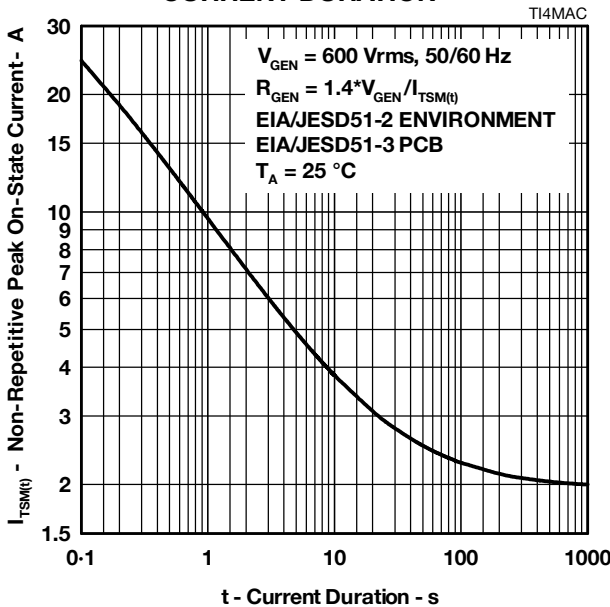

Figure 9.
5. EIA/JESD51-2 environment and EIA/JESD51-3 PCB with standard footprint dimensions connected with 5 A rated printed wiring track widths. See Figure 9 for the current ratings at other durations. Derate current values at -0.61 %/ $^\circ\text{C}$ for ambient temperatures above 25 $^\circ\text{C}$.
The protector can withstand currents applied for times not exceeding those shown in Figure 9. Currents that exceed these times must be terminated or reduced to avoid protector failure. Fuses, PTC (Positive Temperature Coefficient) thermistors and fusible resistors are overcurrent protection devices which can be used to reduce the current flow. Protective fuses may range from a few hundred milliamperes to one ampere. In some cases, it may be necessary to add some extra series resistance to prevent the fuse opening during impulse testing. The current versus time characteristic of the overcurrent protector must be below the line shown in Figure 9. In some cases, there may be a further time limit imposed by the test standard (e.g. UL 1459 wiring simulator failure).